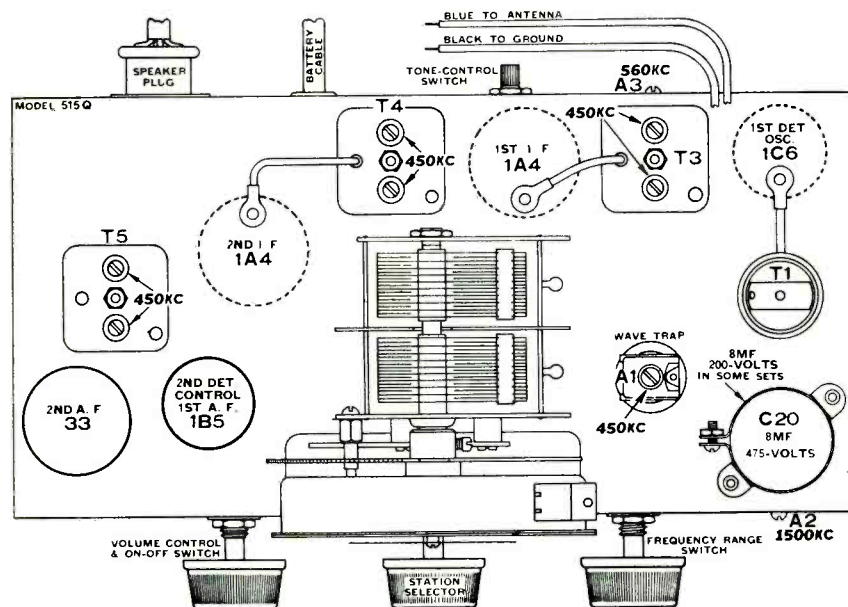

Fig. 2. Chassis view showing trimmer locations.
(F) Adjust detector trimmers (A11), Fig. 2, to maximum output.
is 3½ watts. A complete circuit diagram is shown in Fig. 1 with the tubes used, their functions and the voltages encountered throughout lettered on the diagram. The trimmer locations are given in Fig. 2. The voltages were measured with a 1,000-ohm-per-volt voltmeter with the antenna shorted to the chassis and the volume control on full.